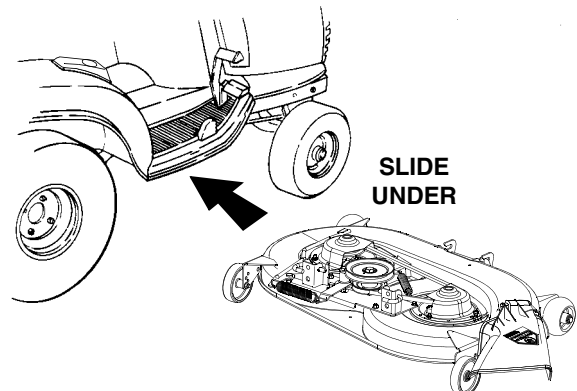

Figure 45
2. Refer to Figure 45 and position the deck on the right side of the tractor with the front of the deck facing toward the front of the tractor. Raise the tractor implement lift handle to its highest setting and slide the deck under the tractor.